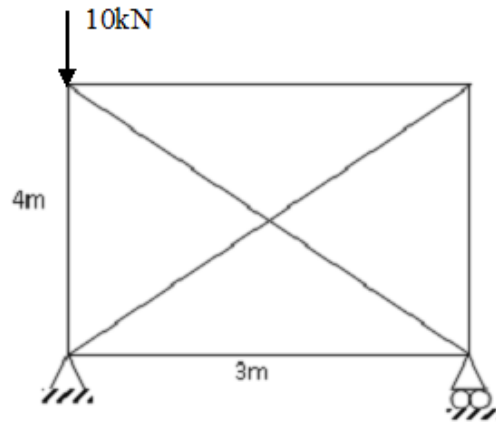

Figure 2:
2. a) How would you explain the concept of equivalent joint load and its significance in structural analysis. (3)
- b) Analyse the Truss shown in Figure 2 using Direct stiffness method. (7)
3. a) A cantilever of length  $L$  and uniform flexural rigidity  $EI$  supports a uniformly distributed load of intensity  $w$  kN/m over its entire span length. Evaluate the maximum slope and deflection at the free end using Newmark's method. (5)